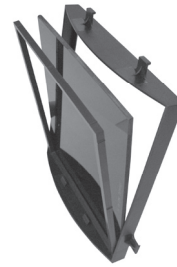

fig. 6
- **Fitting New Cartridge. (See fig. 6)**